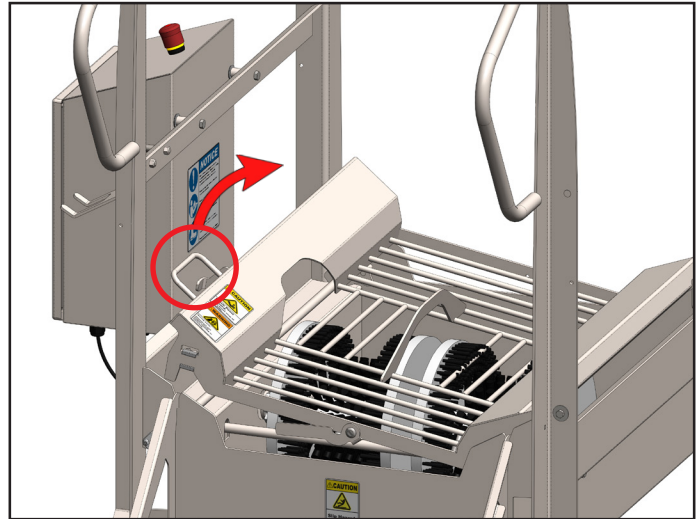

Fig. 8.1: Grate Lifting, shown with BLX-800R
2. Use handle to lift the gate and swing the gate open completely [Figure 8.1].